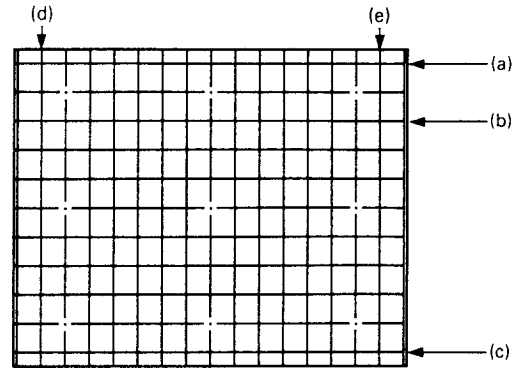

Fig. 10. Crosshatch Signal
- (1) Tune receiver into crosshatch signal.
- (2) Set SHARPNESS control at click-stop position and push "OPTIMUM" button.
- (3) Observing the second line (d), (e) from both ends on the screen, adjust PCC PHASE control VR5003 for optimum EAST-WEST PCC phase.
- (4) Observing the second line (d), (e) from both ends on the screen, adjust PCC AMP control VR5002 or optimum EAST-WEST PCC distortion. (refer to Fig. 10).
- (5) Tune receiver into a standard signal.
- (6) Adjust H-WIDTH control VR5001 normal horizontal size.
- (7) Repeat steps above, if necessary.